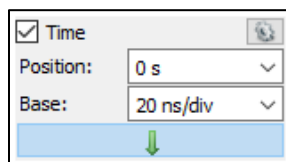

Figure 1: Oscilloscope frequency measurement time base.
4. Use the *Scope* feature in *WaveForms* to measure the clock signal, and display the waveform frequency. Within the *Scope* window, display the frequency by selecting View > Measurements, then Add > Defined Measurement > Horizontal > Frequency. To yield an accurate frequency measurement, set your time base to an appropriate value, like 20ns/div as shown in **Figure 1** below.